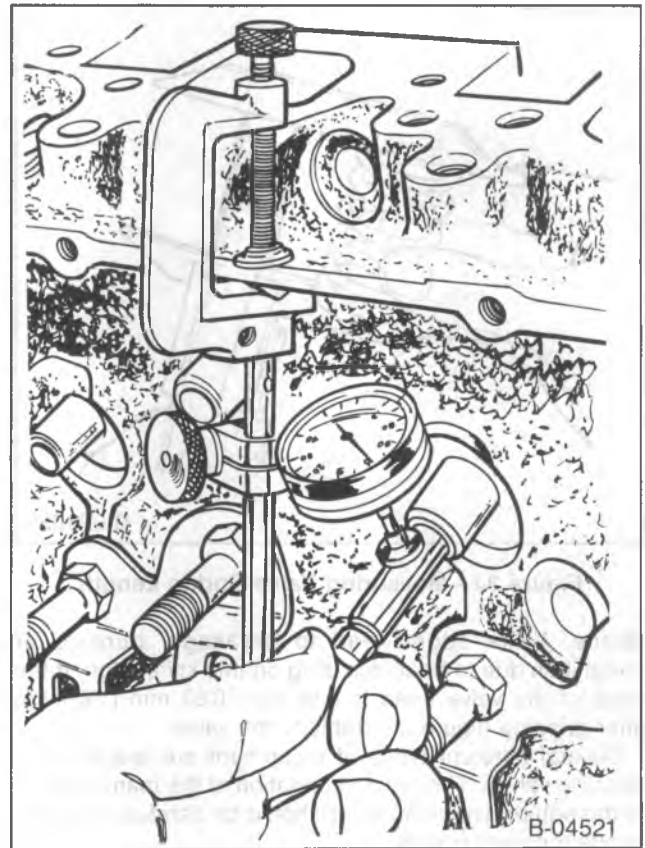

Figure 32—Measuring Stem to Bore Clearance (Typical)
Measure (Figures 32, 33, and 34)
- Clamp a Dial Indicator J 8001 (or equivalent) on one side of the cylinder head rocker arm cover gasket rail (figure 32).